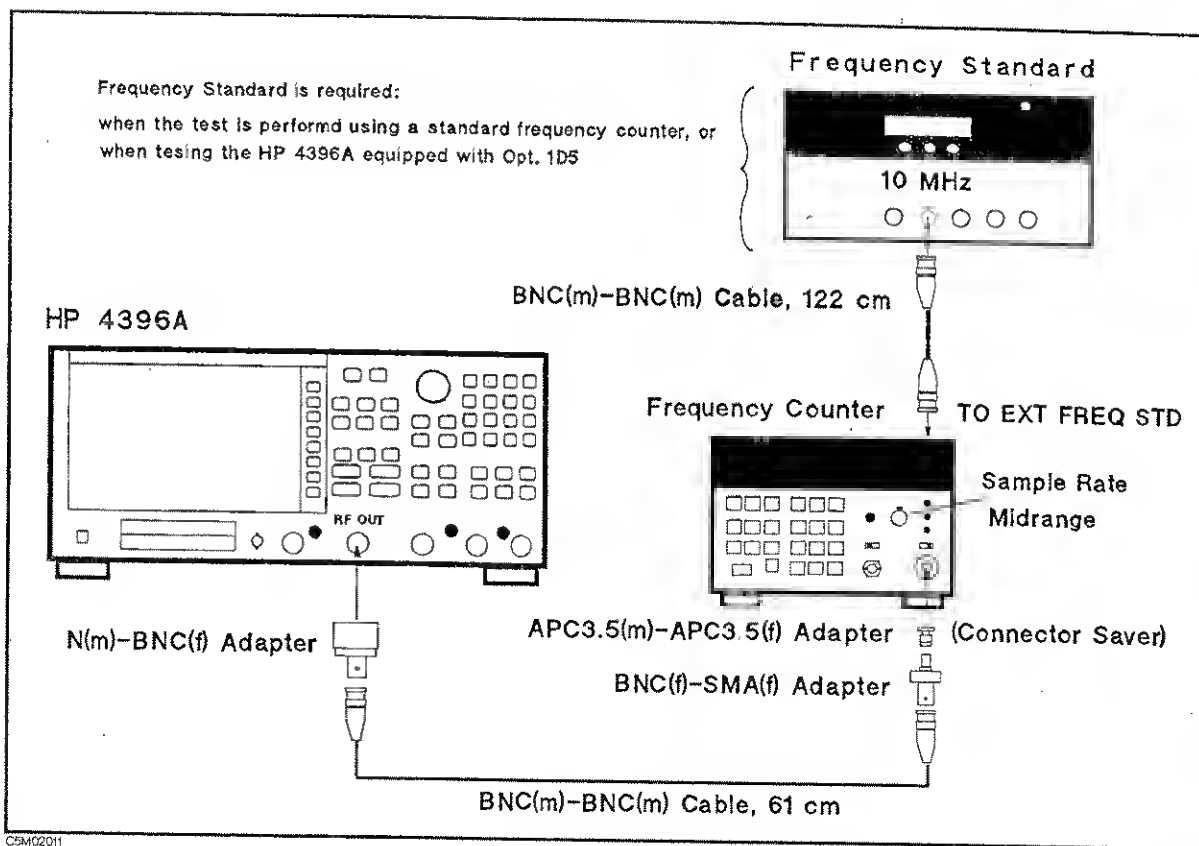

Figure 2-1. Frequency Accuracy Test Setup
1. Connect the test equipment as shown in Figure 2-1.
For testing an HP 4396A equipped with Option 1D5, connect a BNC(m)-BNC(m) cable between the EXT REF input connector and the REF OVEN connector on the HP 4396A rear panel. Then connect the frequency standard's 10 MHz connector to the frequency counter's EXT FREQ STD connector as shown in Figure 2-1.
An APC 3.5(m)-APC 3.5(f) adapter is used between the BNC(f)-SMA(f) adapter and the HP 5343A's APC 3.5(m) input connector to protect the HP 5343A's APC 3.5(m) input connector. In Figure 2-1, the SMA connector of the BNC(f)-SMA(f) adapter is mated with the APC 3.5 connector of the different type.